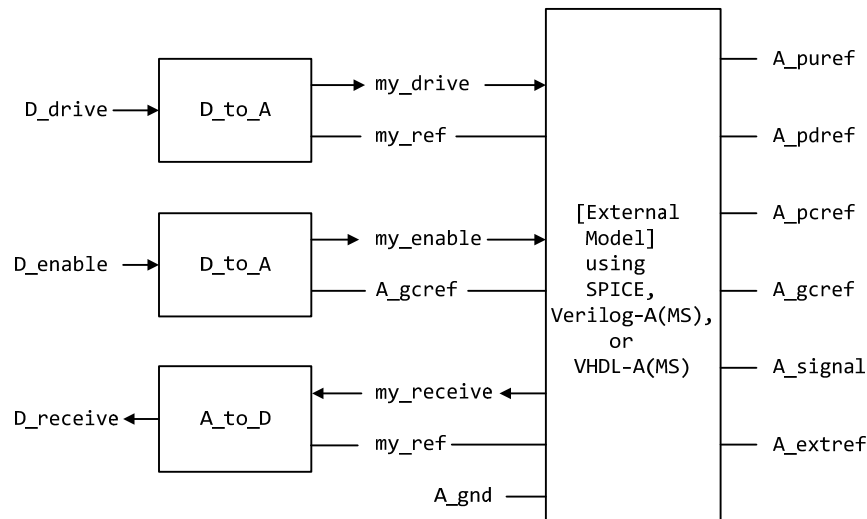

Figure 24 - Example of an [External Model] I/O Buffer Using SPICE, Verilog-A(MS), or VHDL-A(MS)
A conceptual diagram of the port connections of a SPICE, Verilog-A(MS) or VHDL-A(MS) [External Model] is shown in Figure 24. The example illustrates an I/O buffer. Note that the drawing implies that the `D_receive` state changes in response to the analog signal `my_receive`, not `A_signal`: